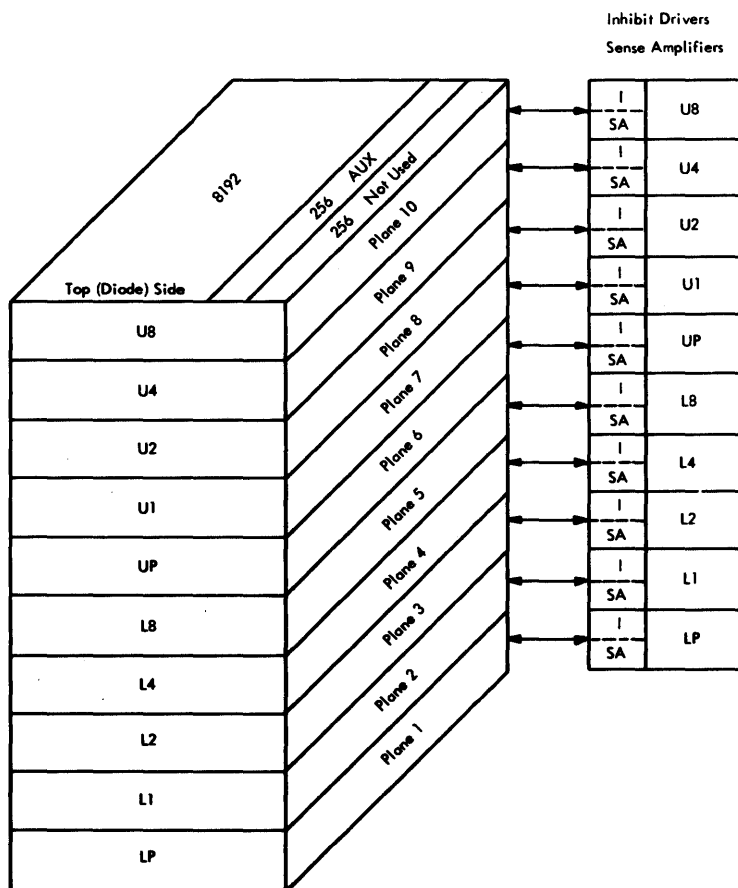

Figure 2-11 Bit Plane Arrangement 8K
- Ten physical planes per 8K array (Figure 2-11).
- One storage position contains ten bits; five bits in the upper (U) and five bits in the lower (L) part.